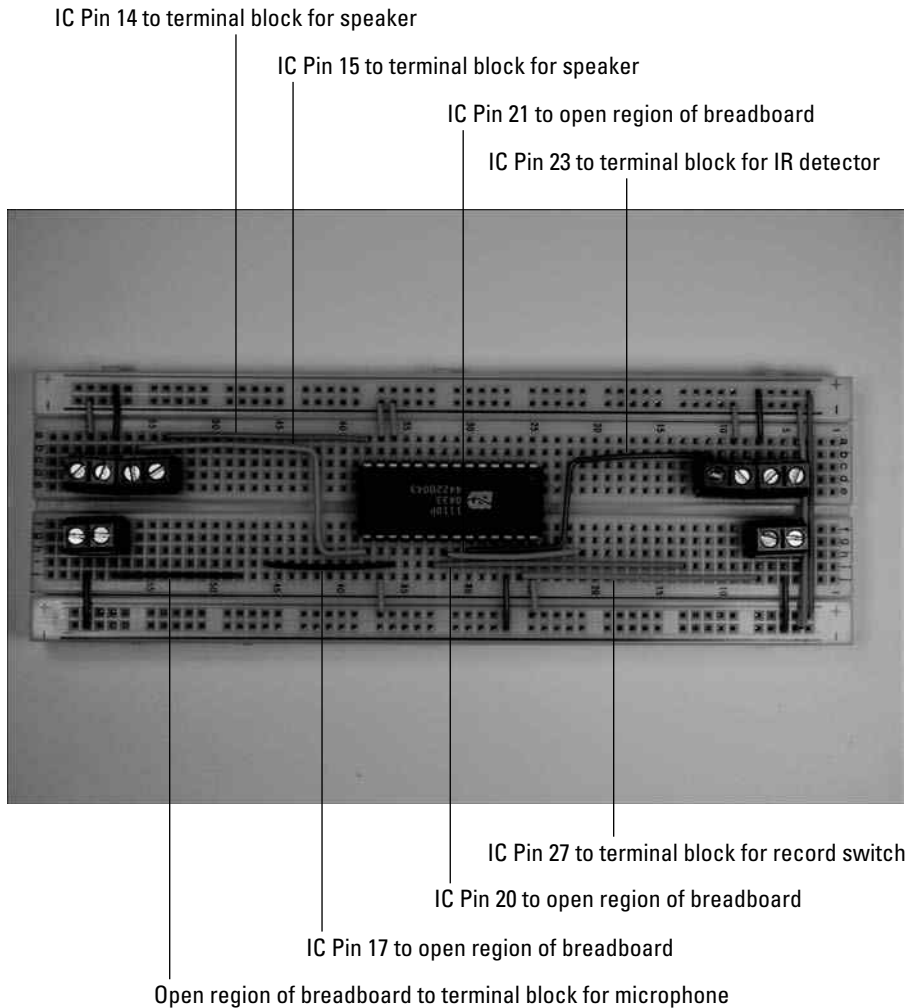

Figure 9-21: Connect the IC to the TBs and available locations for discrete components.
4. **Insert wires to connect the voice chip IC to the terminal blocks and to the open regions of the breadboard where discrete components will be inserted, as shown in Figure 9-21.**